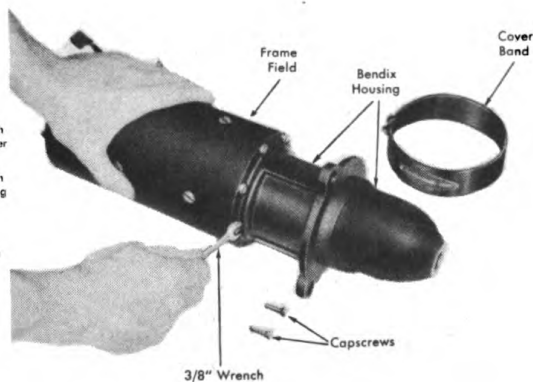
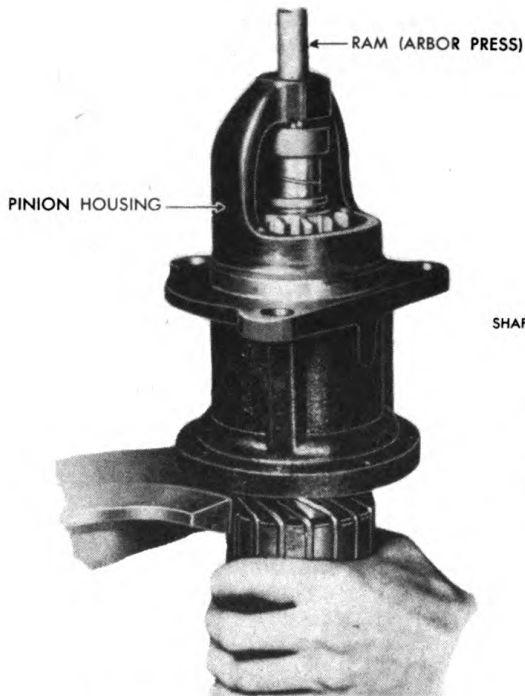
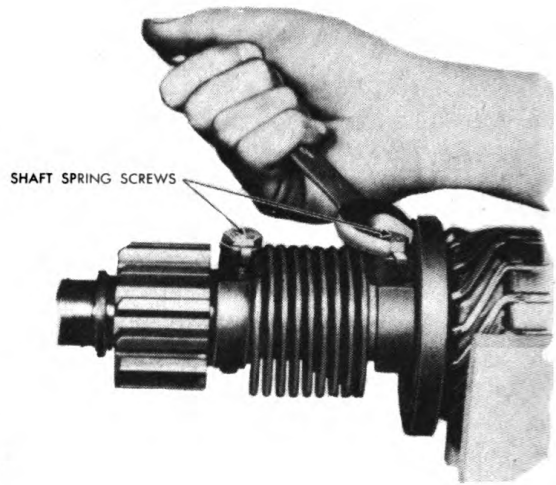
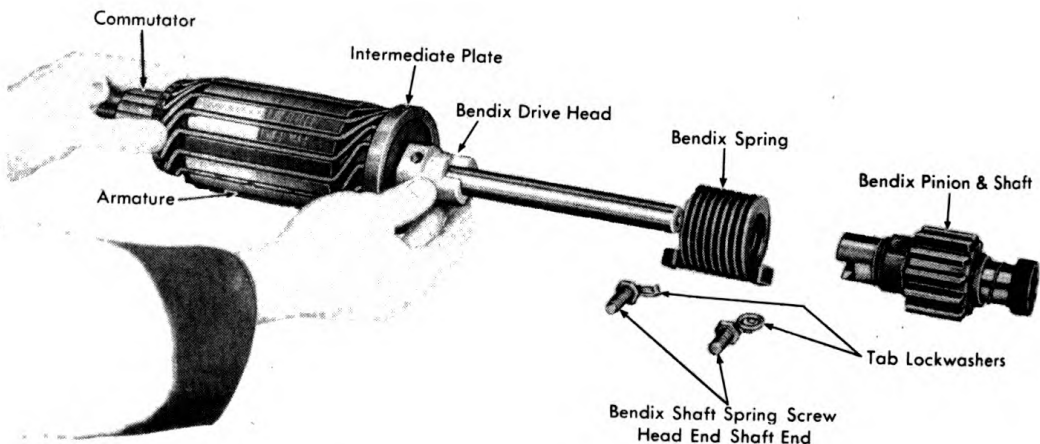

Figure 248. Removing pinion housing screw.
Figure 249. Pressing Armature Shaft Out of Pinion Housing.
Figure 250. Removing Bendix Shaft Screws.
Figure 251. Sliding Bendix off Shaft.
D. Remove the screws holding the pinion housing to the frame and pull the housing and armature off the frame. See Figure 248. Press the armature out of the pinion housing with an arbor press as shown in Figure 249. Loosen the Bendix shaft spring screw as shown in Figure 250 and slide the Bendix off the shaft. See Figure 251.
F. Clean the pinion housing and soak the bearings in medium engine oil. Assemble the housing on the motor and fasten to the holding screws. See Figure 248.
5. Press the armature out of the pinion housing with an arbor press as shown in Figure 249.
6. Take off the Bendix shaft spring screw and slide the Bendix assembly off the shaft. See Figure 250.
2. Apply a thin coat of light oil to the armature shaft and assemble the Bendix drive on the shaft. See Figure 251. Make sure the two woodruff keys are in their proper place and tighten the Bendix spring screws. Bend the ears of the lock washers to prevent the screws from loosening.
4. Assemble the armature and pinion housing on the frame and field and fasten with the holding screws. Tighten the screws securely with lockwashers on all screws. See Figure 248.